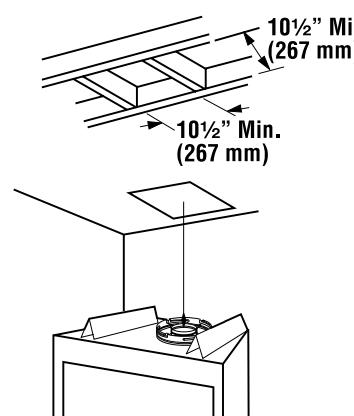

Figure 16
A. Frame ceiling opening - Use a plumb line from the ceiling above the appliance to locate center of the vertical run. Cut and/or frame an opening, 10 1/2" x 10 1/2" (267mm x 267mm) inside dimensions, about this center mark (**Figure 16**).
C. Frame ceiling opening - If the vertical route is to penetrate a ceiling, use plumb line to locate the center above the appliance. Cut and/or frame an opening, 10 1/2" x 10 1/2" (267 mm x 267 mm) inside dimensions, about this center (refer to **Figure 16 on page 12**).